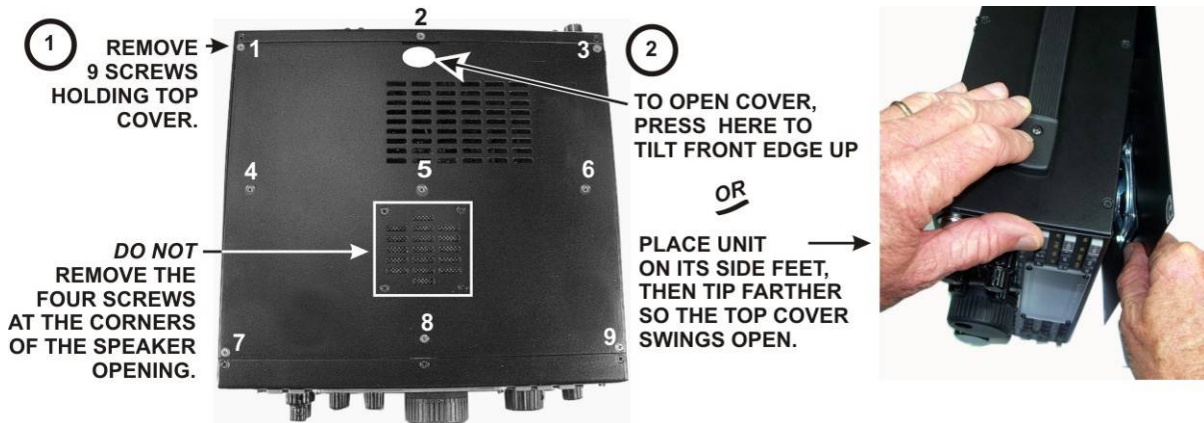

Figure 3. Removing K3 Top Cover.
Remove the nine screws to free the top cover as shown in Figure 3. After the cover is open, lift it gently to reach the speaker wire connector. Unplug the speaker then set the top cover aside in a safe place.
- Position the top cover on the K3. Note that the tab on the back center goes under the rear lip of the K3 rear panel. Secure the top cover with the nine 4-40 3/16" (4.8 mm) black flat head screws you removed earlier (see Figure 3 on page 10 for the screw locations).